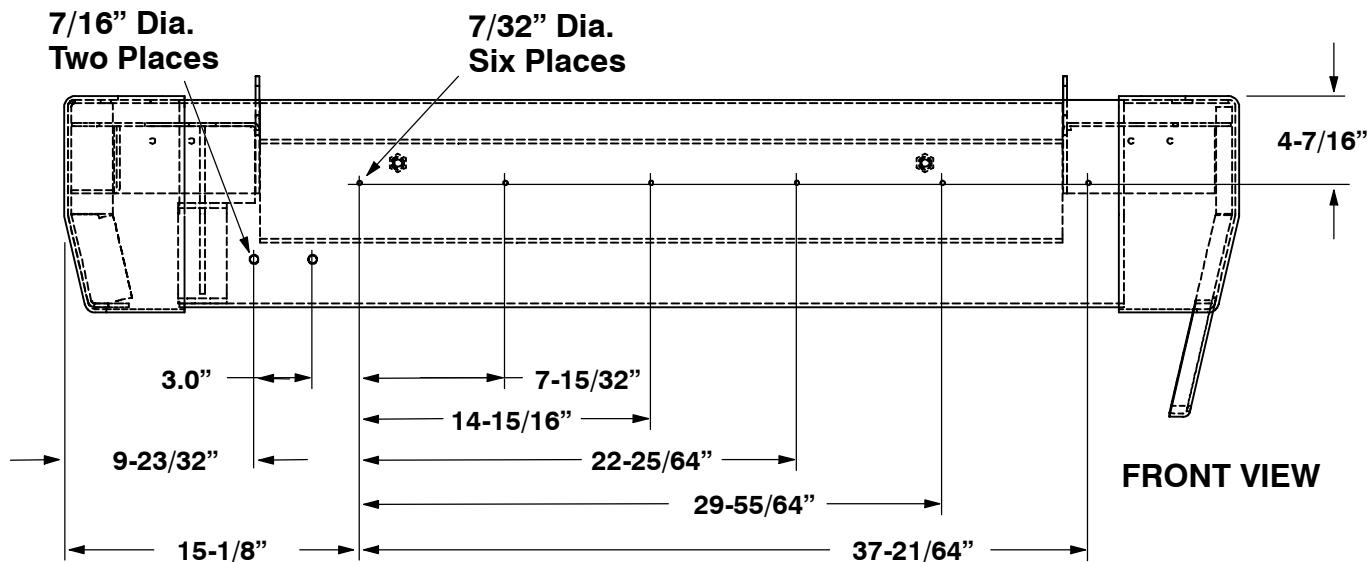

FIG. 5 – Hole Locations on Front Bumper
10. Drill six 7/32 inch diameter holes in bumper. Refer to FIG. 5 for hole locations.
12. Drill two 7/16 inch diameter holes in bumper. Refer to FIG. 5 for hole locations.